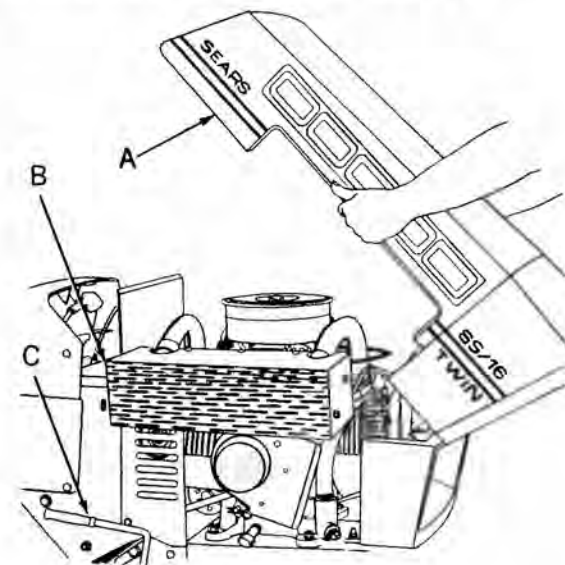
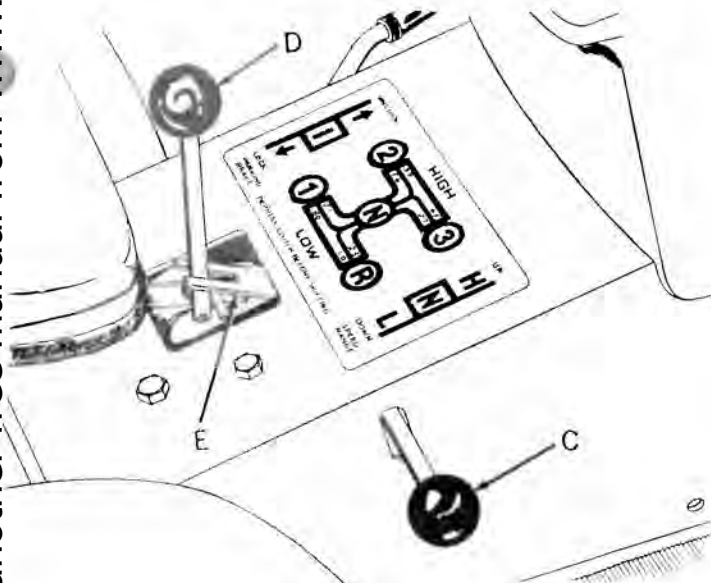
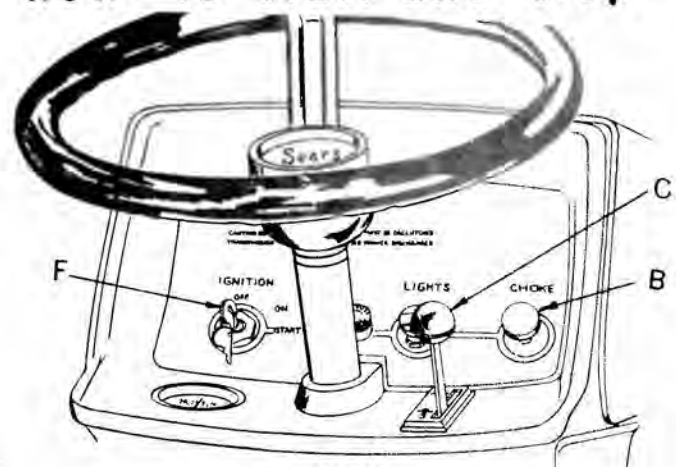

FIG. 3
FIG. 9
FIG. 11
2. Advance throttle control lever (C), to about $\frac{1}{2}$ throttle.
3. This Tractor is equipped with two safety switches. One switch is located on the gear shift lever (D, Fig. 9, Page 6, at point E). The other switch is located on attachment clutch lever (C, Fig. 3, Page 4). The gear shift lever must be in neutral (center position). The attachment clutch lever must also be in disengaged (out), position for engine to start. Turn key (F, Fig. 11, Page 6), in ignition-starter switch clockwise to engage starter. When engine starts, release key. After engine starts, push in choke control as engine warms up. Let engine warm up before applying load. CAUTION: Do not run starter continuously for more than 30 seconds at a time. If after several attempts, engine does not start, move throttle control (C), to fast position. Wait two minutes and try again.